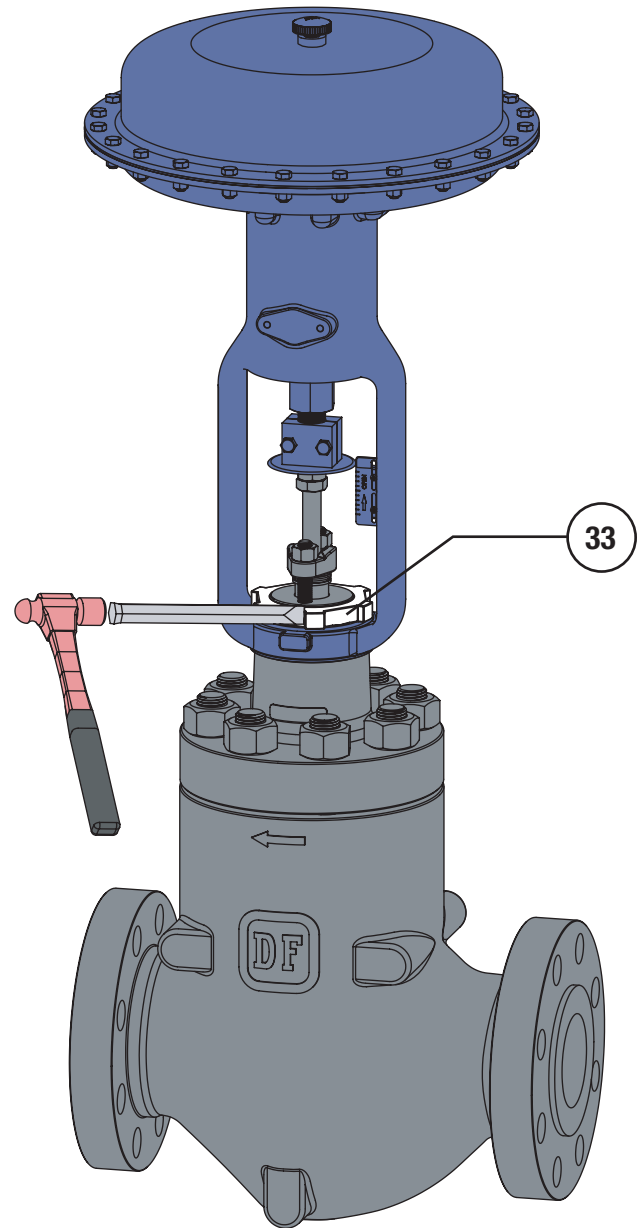

Figure 4 Yoke Nut Loosening Technique
- 6 Use a blunted heavy chisel to loosen the yoke nut (Key 33). Unscrew the yoke nut and remove the actuator from the valve. If the actuator was energized during removal, de-energize the actuator (Refer to Figure 4).